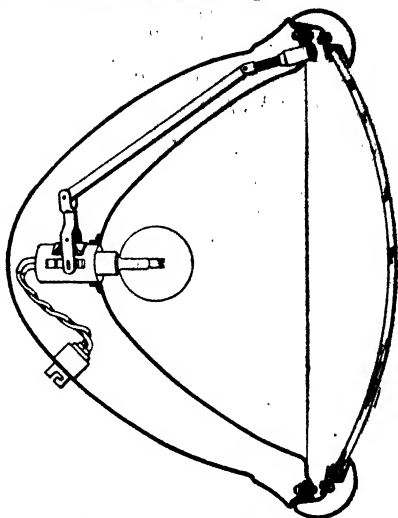
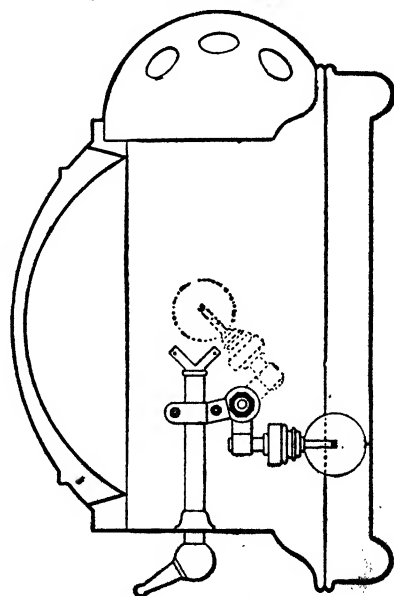

Fig. 187. Section of Fig. 186
Fig. 188. Mangin Lens Reflector
*Comparison of Parabolic with Lens Type.* The reflector in the foregoing lamp is of the deeply parabolic metal type, illustrated in Fig. 187. The advantage of this type of reflector is that it intercepts a much larger proportion of the light rays from the lamp than the lens-mirror type of reflector, Fig. 188.